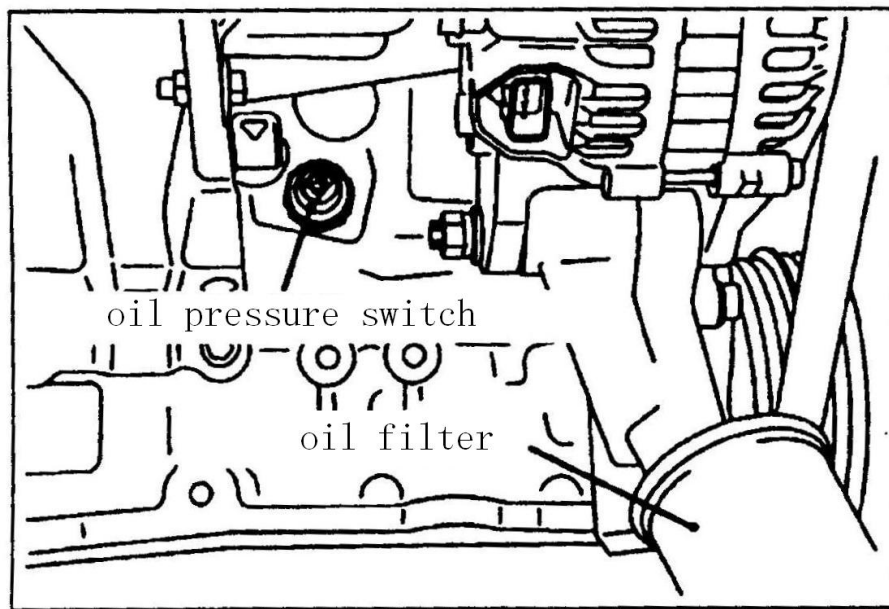

Fig 5-4
- (1) Check engine oil quantity.
- (2) Remove the oil pressure switch terminal (See Fig 5-4)